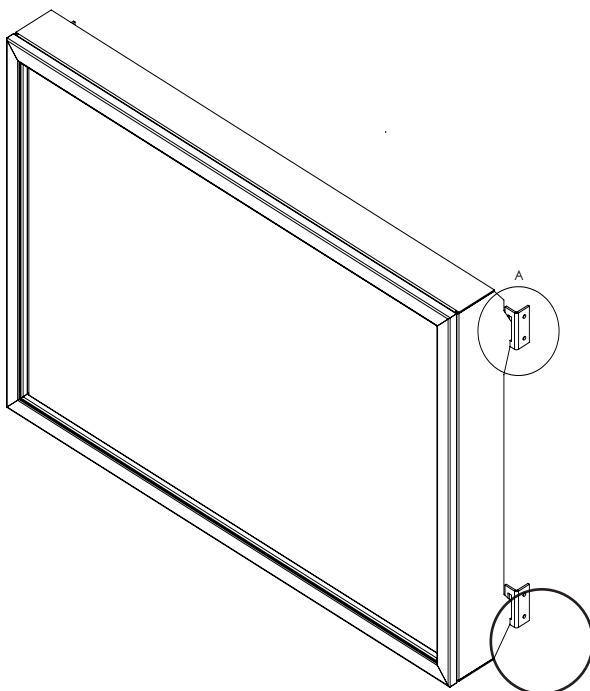

Figure 47: Installing Safety Screen onto Cabinet Bracket (Parts removed for clarity)
2. Lift the face upright in front of the fireplace with the four (4) hooks pointing towards the fireplace. Slide the hooks into the corresponding brackets on each side of the cabinet (see Figure 47). Ensure the hooks are secure before releasing the safety screen.